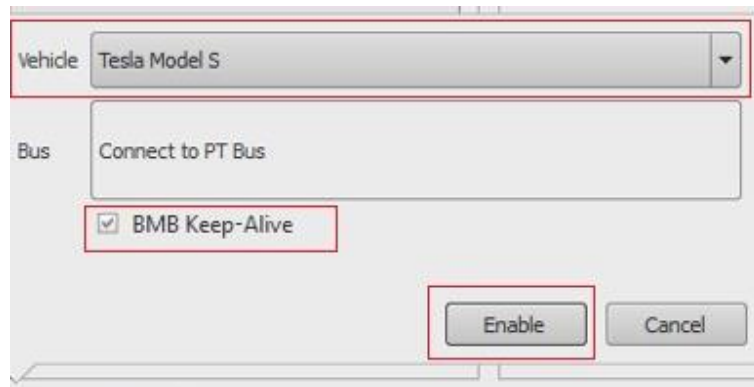

Figure 9
6. Open the High Voltage Battery Communication Tool application and connect to the HV battery pack (Figure 9).